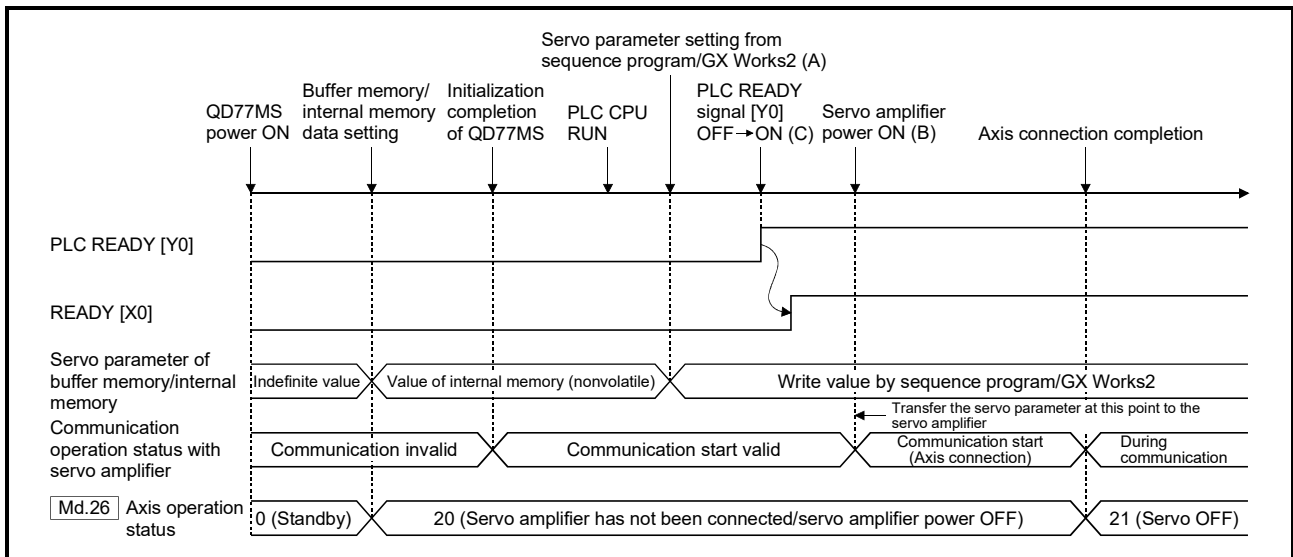

Fig. 7.3 When the servo amplifier had started after the PLC READY signal [Y0] is turned OFF to ON
(2) When the servo amplifier's power supply is turned ON after the PLC READY signal [Y0] is turned OFF to ON (Fig. 7.3 (C)).
Communication start timing to the servo amplifier: When the servo amplifier had started (Fig. 7.3 (B)).
Transfer the servo parameter : The data written from sequence program/ GX Works2 before the PLC READY signal [Y0] ON (Fig. 7.3 (A)).